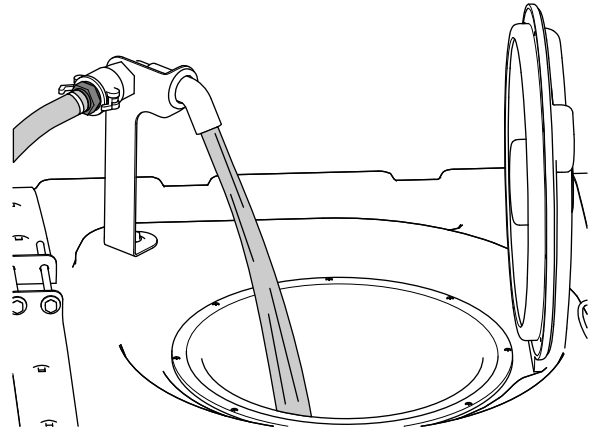

Figure 28
5. Add 3/4 of the required water to the spray tank (Figure 28).